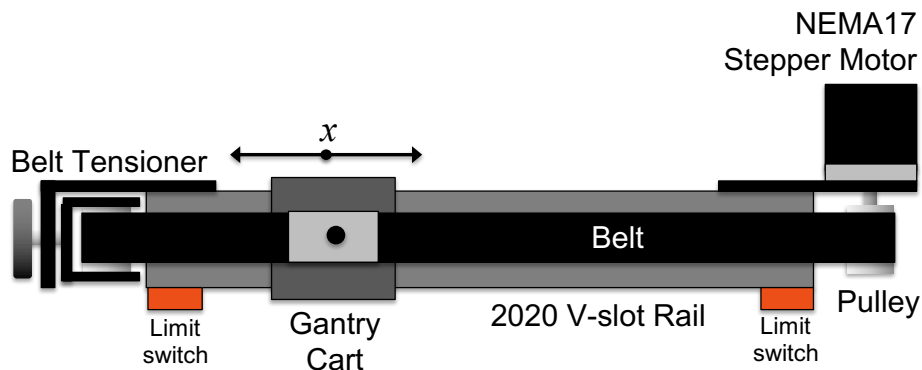

Figure 1 – A linear actuator system uses a stepper motor with a pulley and belt to move a gantry cart to a desired position x .
In this lab you will learn to control a stepper motor and integrate it into a belt-drive system to create a linear actuator. Illustrated in Figure 1, the stepper motor will turn a pulley that will move a belt and gantry cart to a desired position x . Limit switches on the ends will prevent the motor from crashing the gantry cart into the ends of the track.
3. Use M3 T-nuts and screws to mount the limit switches to the sides of the rail, as illustrated in Fig. 1. (Note that the M3 T-nuts have a slightly smaller inner diameter than the M4 T-nuts.) The M3 T-nuts can be “dropped in” to the slot on the side with the rounded side facing inward. The limit switches should then be positioned at a height where the cart will depress the lever arm before crashing.